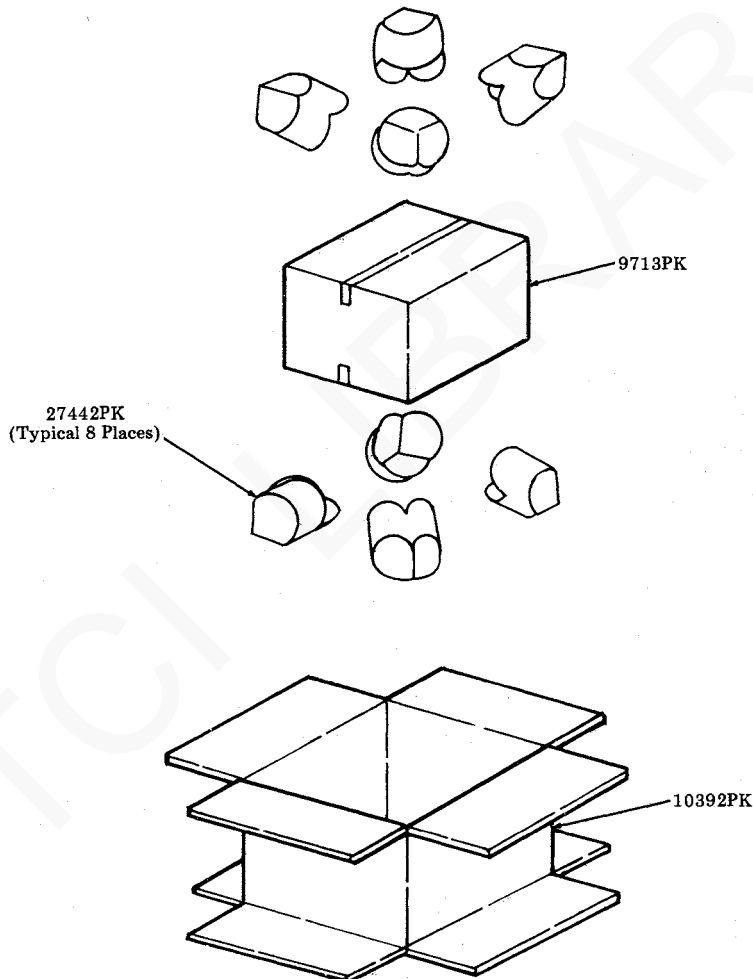

Fig. 63
- Step 8. Form a 10392PK carton. Fold bottom flaps outward and place around sealed carton. (See Fig. 63.)